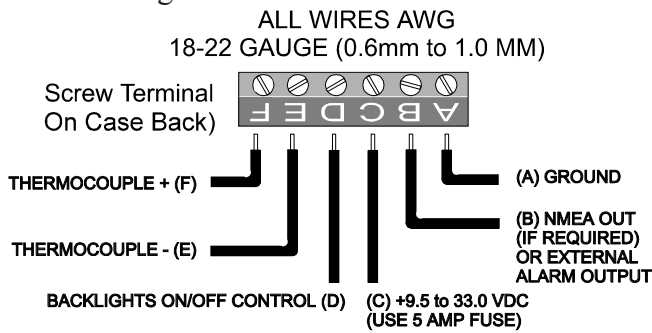

Figure 2
- Bring the thermocouple wires, ground, and power lines out of the mounting hole and use a small flat screwdriver to make the connections to the screw terminals on the instrument case back as shown in Figure 2.